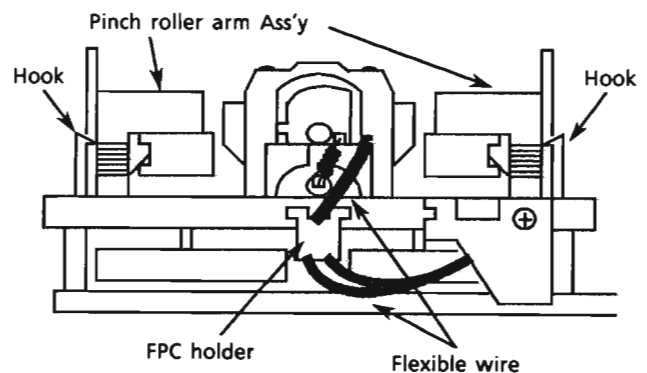

Fig 16
2. Remove the FPC holder (Fig 16).
1. Release the hook holding the pinch roller arm assembly to remove the assembly (Fig 16).